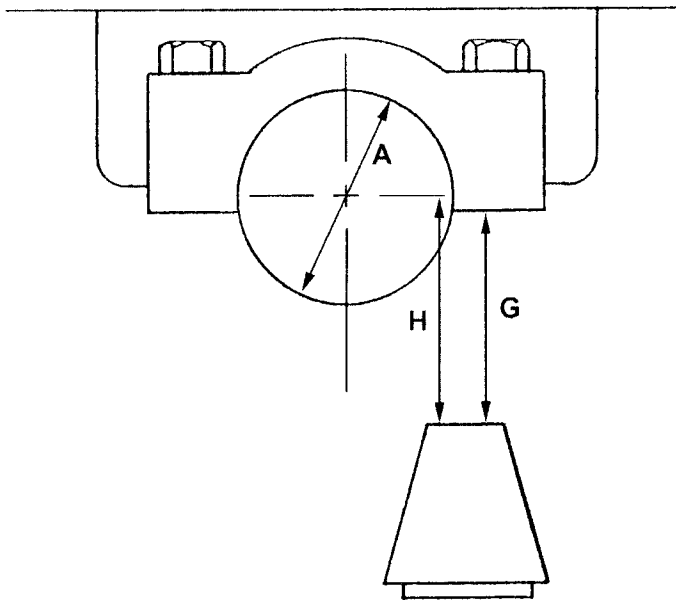

FIGURE 7
12. Subtract the Indicator reading from the dimension of the Setting Gage used in step 10 above (2.000, 3.000, or 4.000). Note, this result is not exactly the pinion depth - it is the "G" dimension in Figure 7.
13. Actual pinion depth is "H" in figure 7. Calculate H by adding G and I.